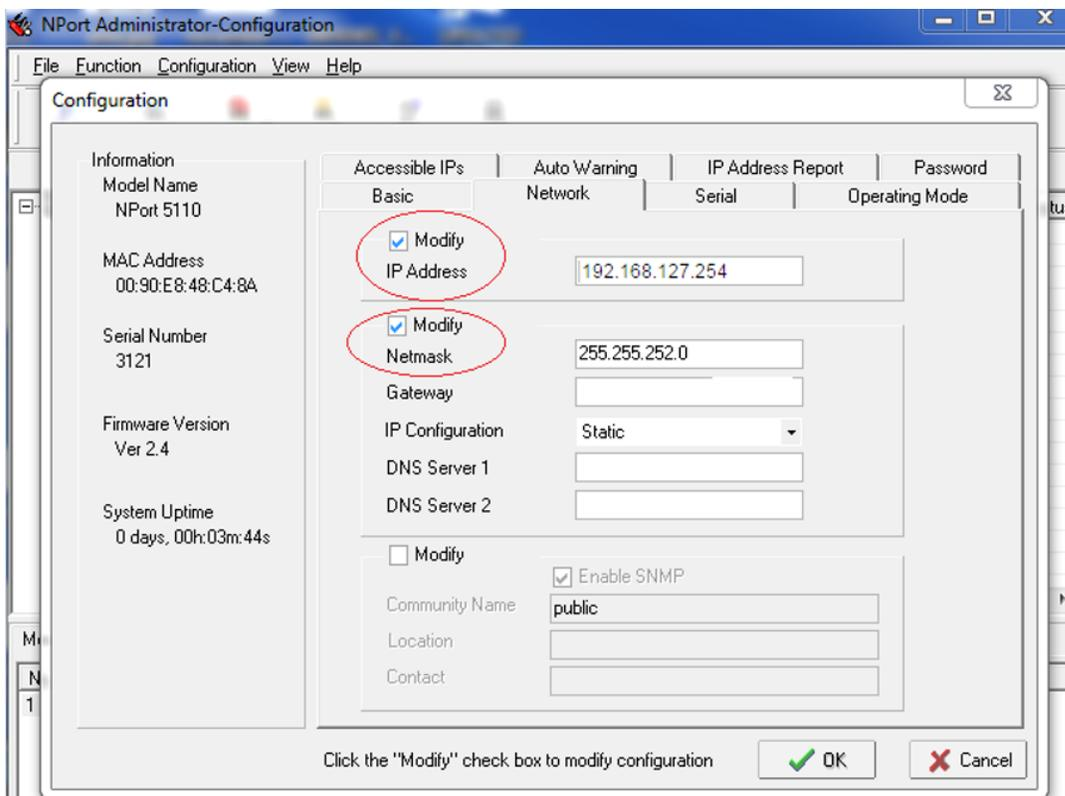

Figure 15 - Nport Configuration
- 5) Check the boxes next to “Modify IP address” and “Modify Netmask”, see Figure 15.